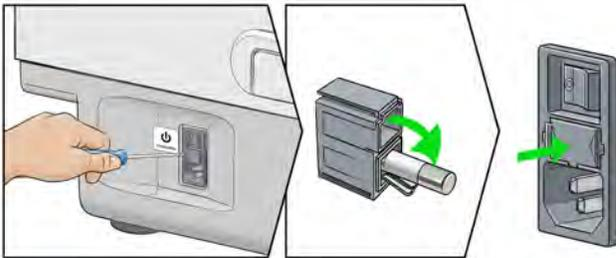

Figure 22 Replacement of the fuse in the power inlet
2. Remove the used fuse, then replace it. See Figure 22.